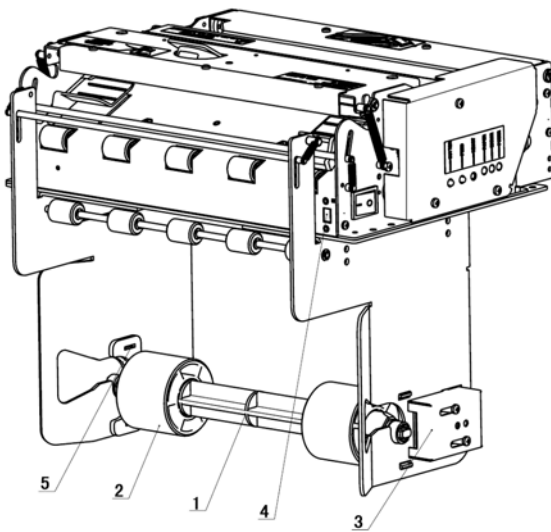

Figure 3.5.1 Vertical paper roll holder appearance
① User may check paper status by sending inquiring command (refer to “command set” for details) to the printer.
② Users can adjust the position of paper near end sensor to control the amount of remaining paper according to different paper roll diameter (see figure 3.5.1 and 3.5.2). To adjust the sensor, please loose those two fixing screws and move the positioning board up or down to the right position along the slide track then tighten the screws.